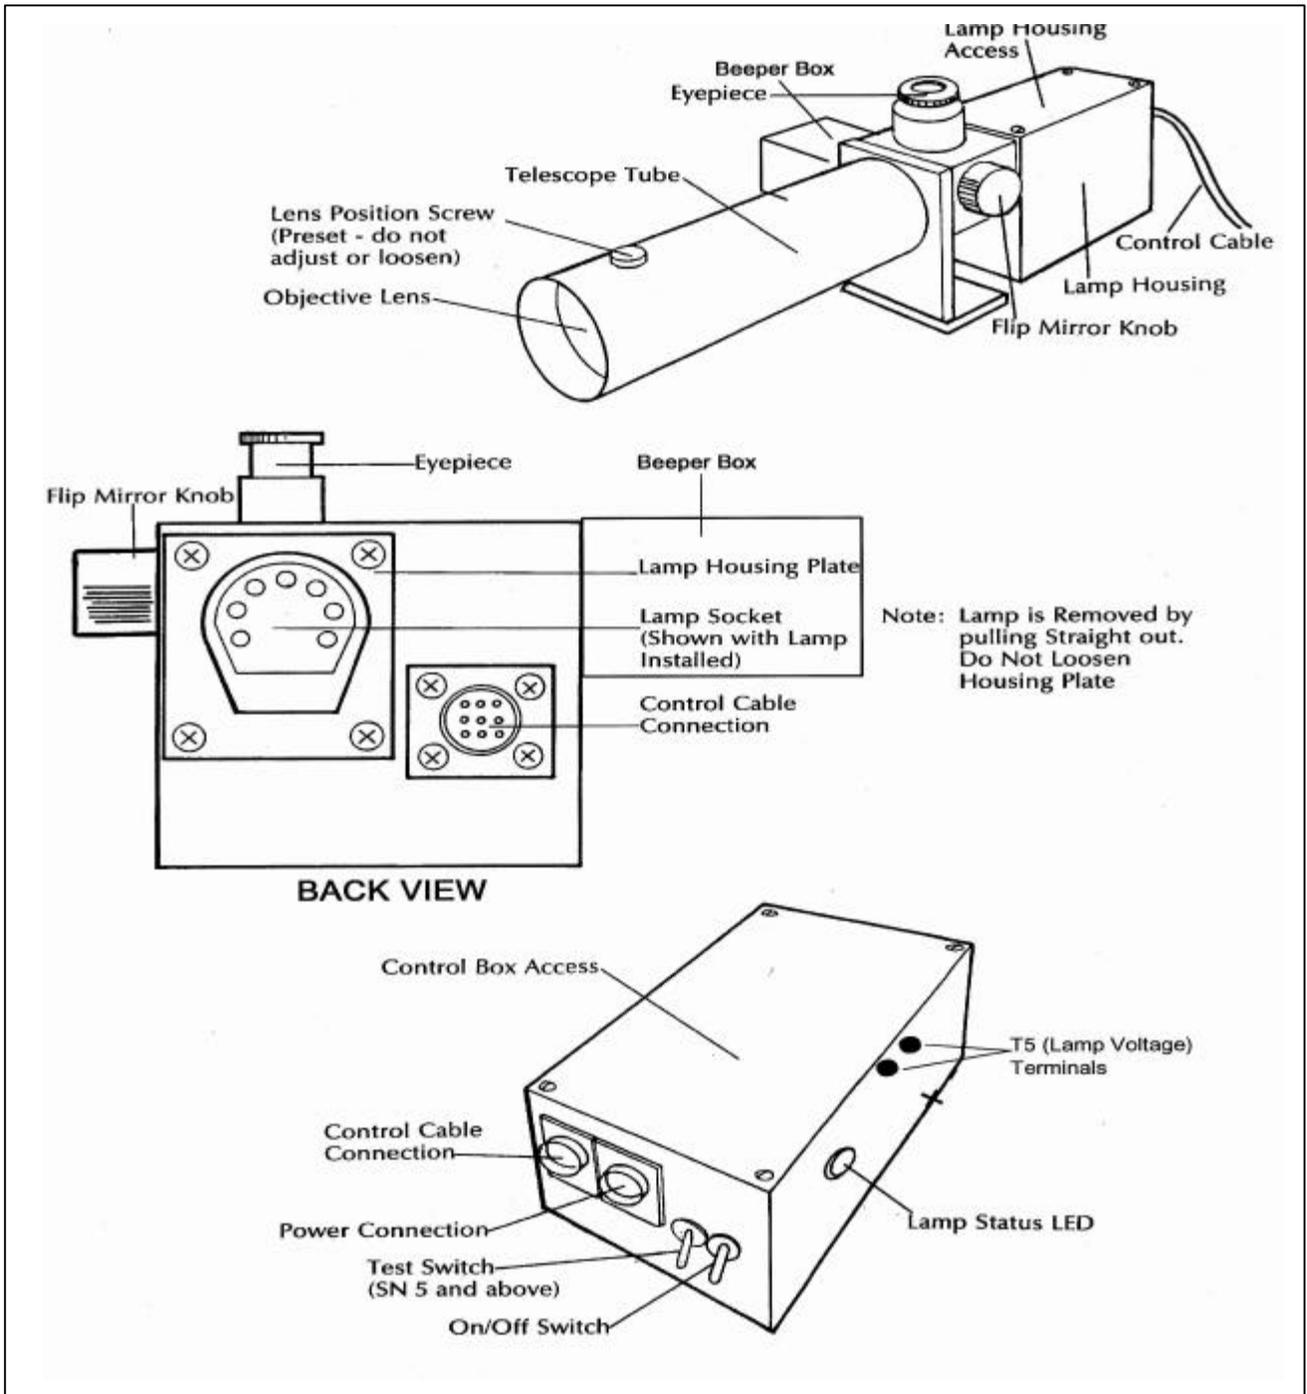

Figure 4-1. Transmitter Component Diagram.
- Remove the transmitter lamp housing access top cover (see Figure 4-1, Transmitter Component Diagram).
- Is the lamp fully seated and are the lamp pins making good contact in the lamp socket? After removing the transmitter lamp housing top cover (see Figure 4-1, Transmitter Component Diagram), look at the two wires that connect to the lamp socket. If either wire is not fully inserted into the socket, disconnect the power cable at the lamp housing and remove the lamp. From the inside of the lamp housing, press both wires firmly back into the lamp socket. Replace the lamp and retest the transmitter.